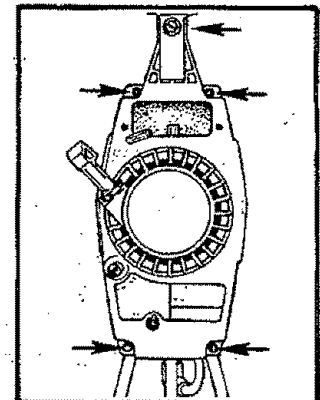

Figure 18
5. Remove the five (5) screws from the fan housing. Figure 18.